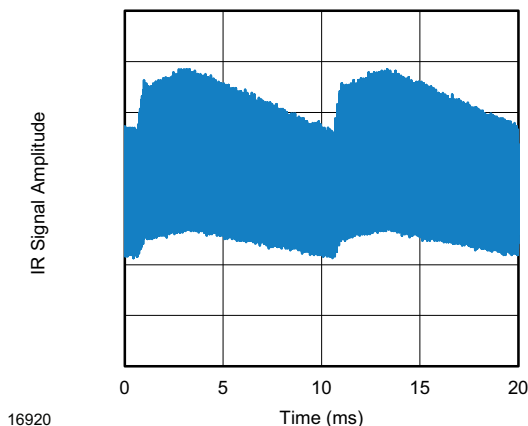

Fig. 13 - IR Signal from Fluorescent Lamp With Low Modulation
- Strongly or weakly modulated patterns from fluorescent lamps with electronic ballasts (see Fig. 13 or Fig. 14)
| Suppression of interference from fluorescent lamps | Mild disturbance patterns are suppressed (example: signal pattern of Fig. 13) | Complex and critical disturbance patterns are suppressed (example: signal pattern of Fig. 14 or highly dimmed LCDs) |